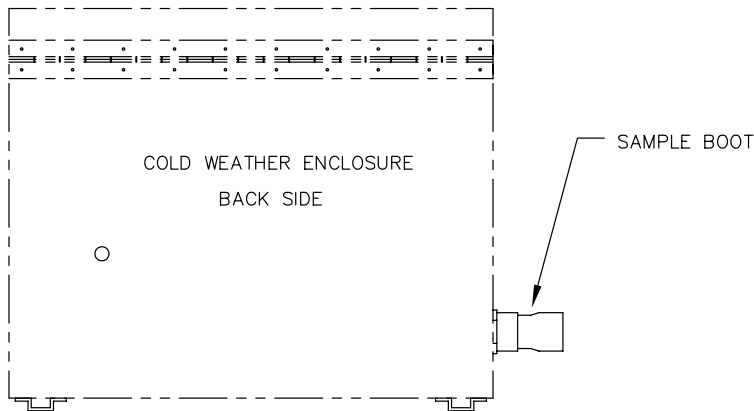

Figure 33 Sample Boot
- 1) Locate Sample Boot on side of Cold Weather Enclosure (see Figure 33).